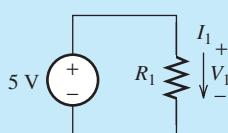

FIGURE 3.15 The basic electric circuit for Example 3.4.
Figure 3.15 shows a basic electric circuit with a power supply driving a single load. Two configurations are provided for study, series (Figure 3.16) and parallel (Figure 3.17). Assuming that $R_1 = 10\Omega$, $R_2 = 20\Omega$, and $R_3 = 30\Omega$:
- Using the circuit in Figure 3.15, find V_1 and I_1 .